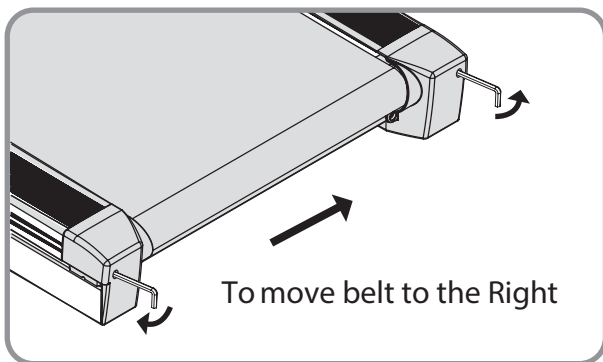

FIG. 1
3. If the belt drifts to the left, turn the left adjustment bolt one-quarter turn clockwise and the right adjustment bolt one-quarter turn counter-clockwise. (See FIG. 1)